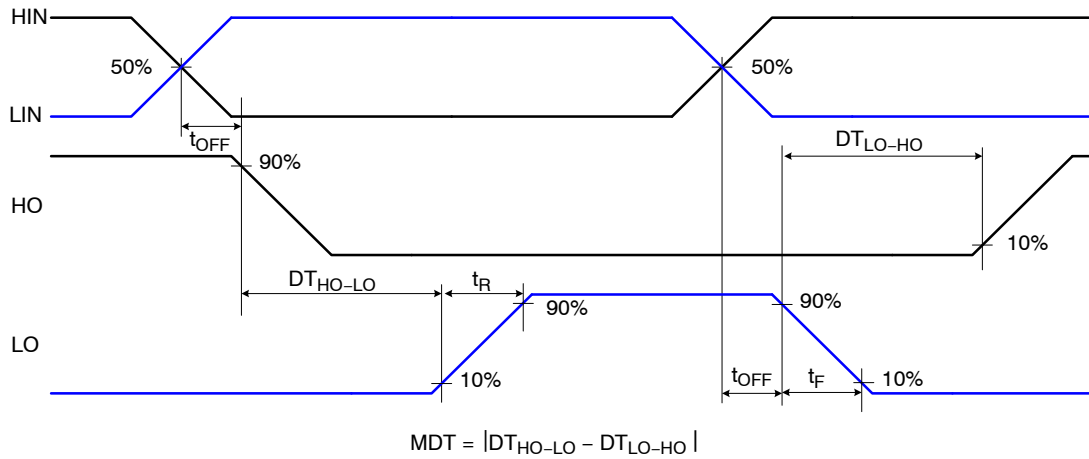

Figure 40. Internal Dead Time Definition
9. MDT is defined as $|DT_{HO-LO} - DT_{LO-HO}|$ referenced to Figure 40.